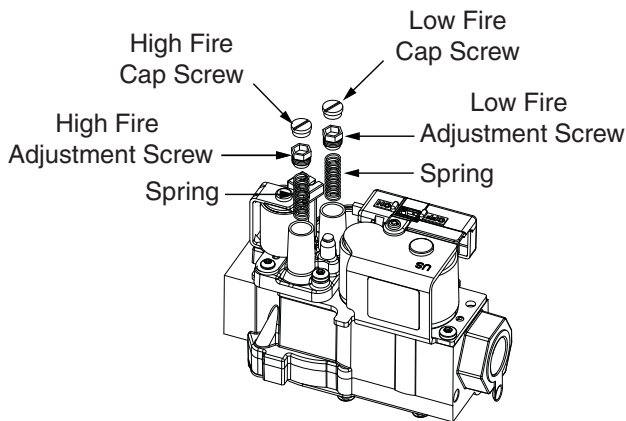

Figure 5. Pressure Regulator Spring & Adjustment Screw Removal
1. Remove the HIGH fire cap screw. See Figure 5.
2-stage gas valve: For VR8205Q2381 models, remove the plastic cap covering the adjustment screws (Figure 4 page 4). For VR9205Q1028 models, remove the cap screw (Figure 5, page 5).
2 is achieved. See Figure 2 for VR8205S2890 or VR8215S1206 models. See Figure 4 for VR8205Q2381 models or Figure 5 for VR9205Q1028 models.